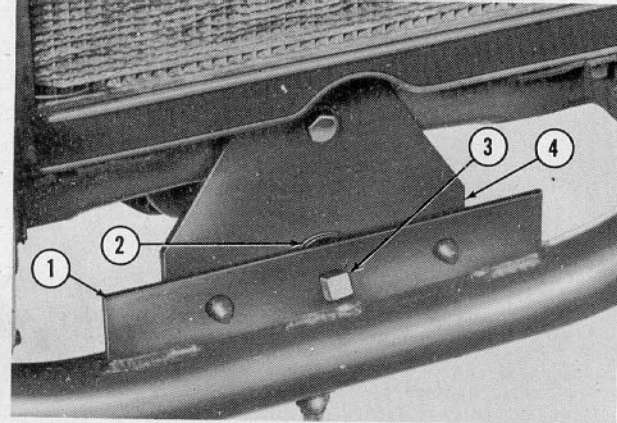
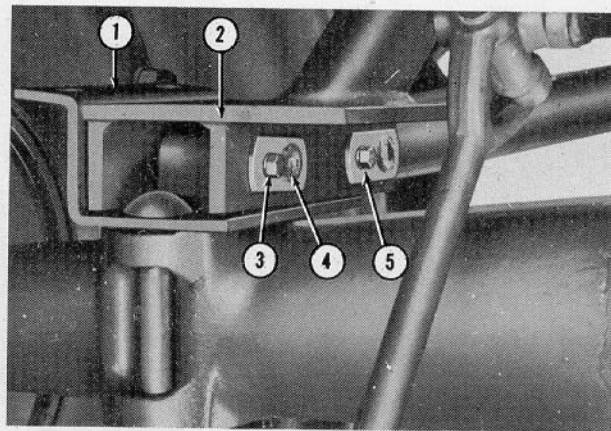
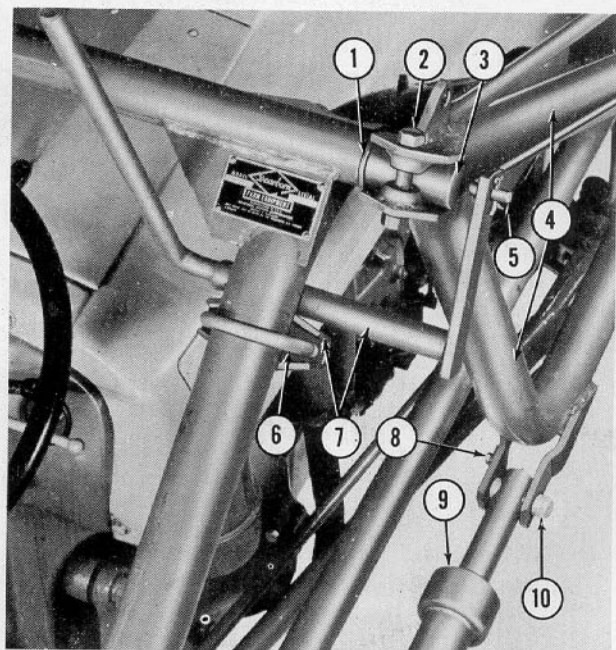

Figure 5
Figure 6
Figure 7
4. Mount the loader main frame on the tractor by hanging the front end of the frame on the loader suspension plate (4) as shown in Figure 5, and securing the rear end (2), Figure 6, to the mounting brackets (1) with the pivot pin (4). Secure the pivot pin with the cap screw and lock washer (3), as shown. Fit the spacer washers (2), Figure 5, in place between the front suspension plate (4), Figure 5, and the loader front mounting bracket (1), as shown. Secure the front end of the loader to the suspension plate with the bolt, lock washer and nut (3), Figure 5.
6. Position the loader lift arm assembly (4), Figure 7, and insert the pivot bar (3), as shown. Fasten the pivot bar in place with
7. Attach the front end of a hydraulic cylinder (9), Figure 7, to each side of the loader lift arm assembly with the short pin (10). Secure the pin with the cap screw and lock washer (8). Attach the rear end of each cylinder to the rear end of the loader with a pin and cap screw as shown at (5), Figure 6. Be sure the
8. Attach the bucket trip lever assembly (7), Figure 7, to the main frame with the "U" bolt (6) as shown. The U-bolt should be about 3 inches below the nameplate. Then attach the bucket trip rod to the arm of the
trip lever with a cotter pin as shown at (5), Figure 7.
The bucket is raised and lowered by means of the Ford Tractor Hydraulic Touch Control lever. To trip the bucket, pull back on the trip lever handle, see Figure 7. When the bucket is lowered to loading position, the bucket latch pin will automatically reset itself.
Keep the cap (9), Figure 7, on each cylinder tightened hand tight.